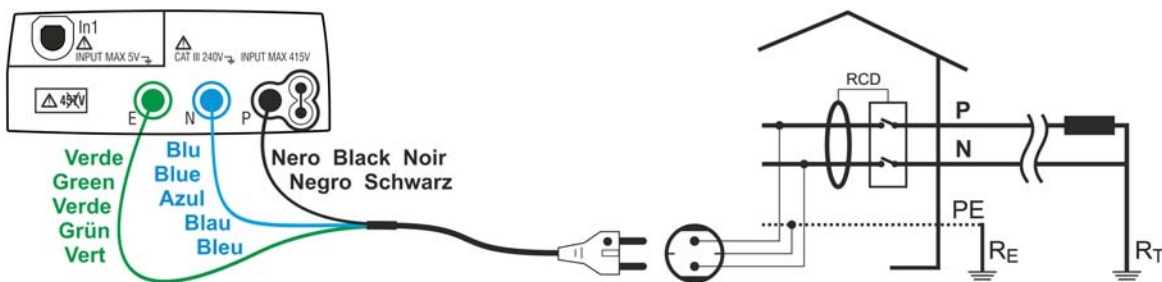

Fig. 4: Instrument connection through shuko cable
3. Insert the green, blue and black connectors of the three-pin shuko cable into the corresponding input leads E, N and P of the instrument. As an alternative, use the single cables and apply the relevant alligator clips to the free ends of the cables. It is also possible to use the remote probe by inserting its multipolar connector into the input lead P. Connect the shuko plug, the alligator clips or the remote probe to the electrical mains according to Fig. 4 and Fig. 5